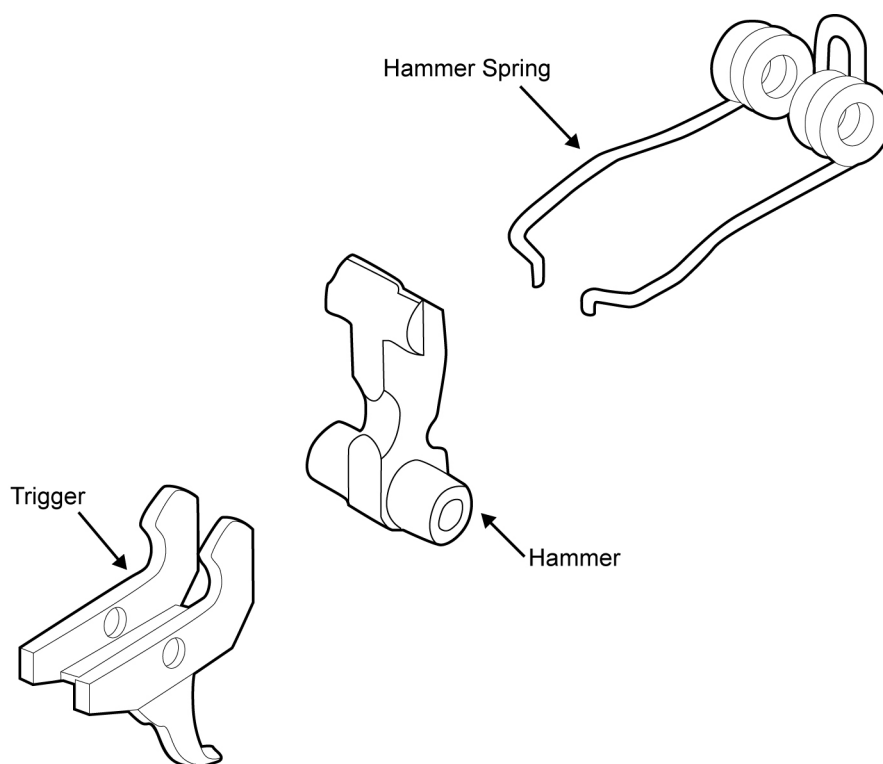

Figure 13. Trigger, Hammer, and Hammer Spring.
b. Worn or broken hammer spring. Refer to Figure 13.	Replace hammer spring. Refer to WP 0013 00.